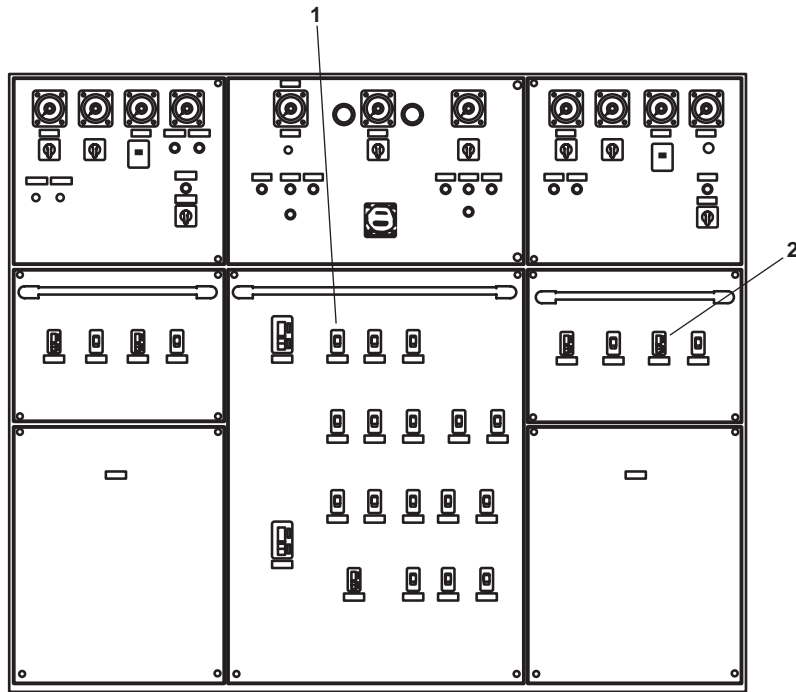

Figure 1. EOS Main Switchboard
- a. AUX MACH SPACE NO.2 PWR PNL NO.5 (figure 1, item 1)
- b. 3-25 KVA 1Ø XFMR (figure 1, item 2)